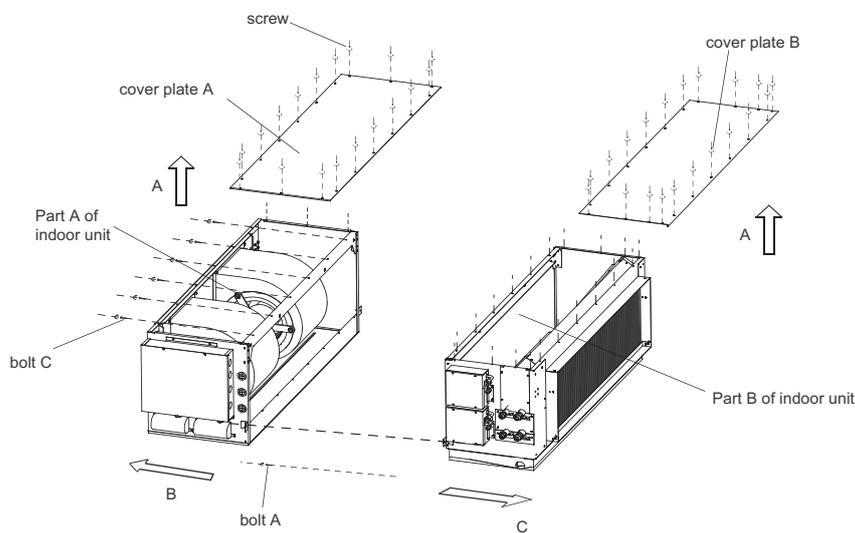

Fig.4-20
- 2 Following *Fig.4-20* twist-off the screws, along the direction of A get off the cover plate A and cover plate B.